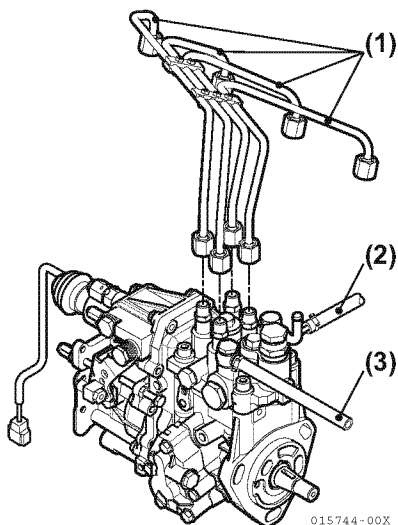

Figure 6-28
5. Remove the high-pressure fuel injection lines as an assembly (**Figure 6-28, (1)**).
8. Disconnect the fuel return lines from the fuel return fitting (**Figure 6-28, (2)**). Plug the open ends of the lines to minimize leaks and prevent contamination.
9. Remove the fuel supply line (**Figure 6-28, (3)**). Plug the open end of the line to minimize leakage and prevent contamination.